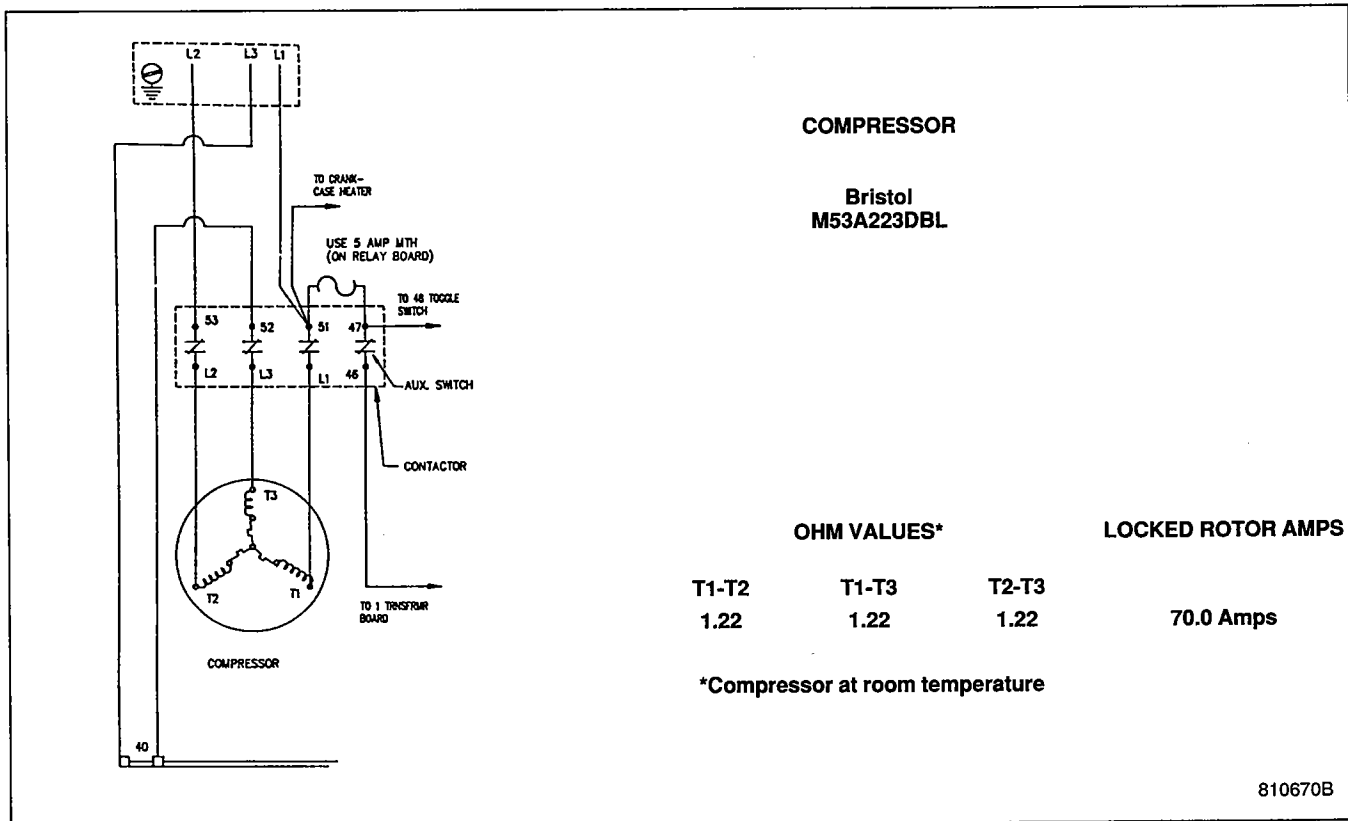

FIGURE 62. THREE PHASE COMPRESSOR AND START COMPONENTS SCHEMATIC
- d. Check winding resistance against values given in Figure 62. The values of all readings should be equal.